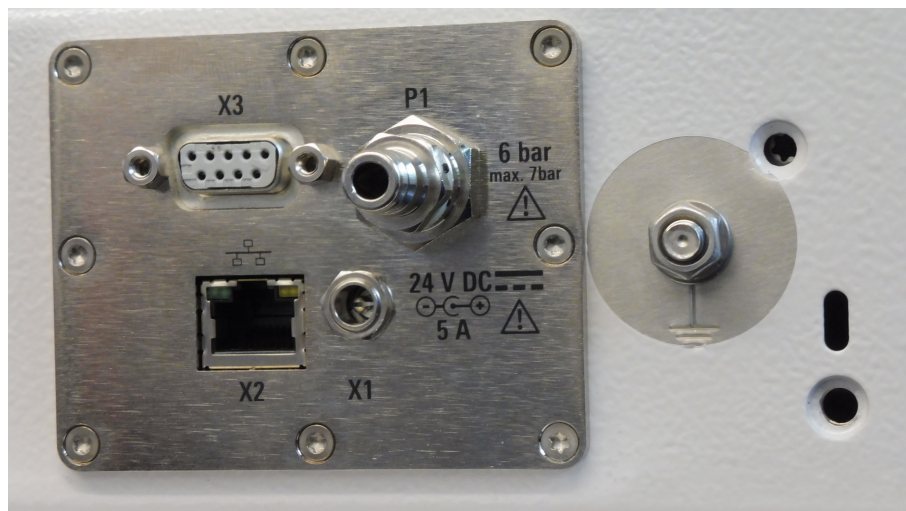

Figure 6-6: Supply and control panel
The quick-coupling plug [P1] (see Figure 6-6) is delivered with an additional push-pull adapter to 6 mm diameter flexible tubing.
1. For remote control via a **serial port**, connect an RS-232 cable from your control system to the D-Sub 9 connector (see **[X3]** in Figure 6-6).
2. For remote control via **Ethernet**, connect a LAN cable from your control system to the RJ45 connector (see **[X2]** in Figure 6-6).